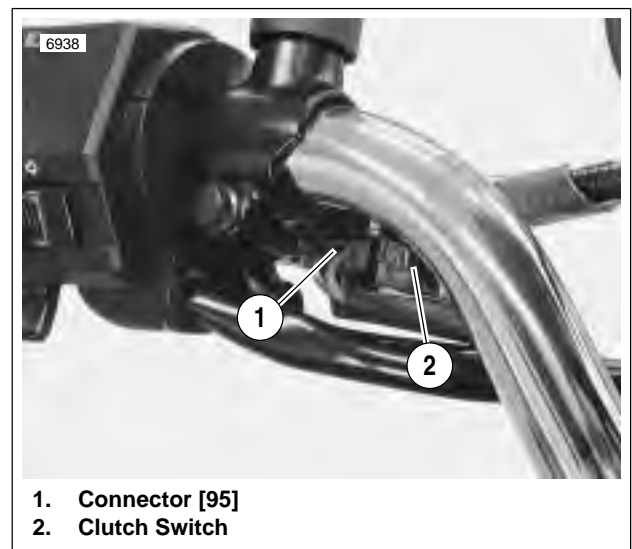

Figure 4-29. Clutch Switch
- By disengaging the clutch and grounding the relay through the clutch switch. See Figure 4-29.